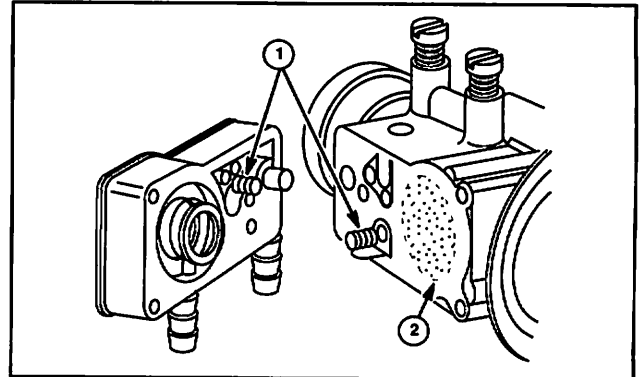

Fig. 144
3. Install one flapper valve spring on spring boss, Fig. 144, and then place diaphragm (2) on carburetor.
4. Place a pump valve spring (1) on spring boss in pump body and place pump body on carburetor.